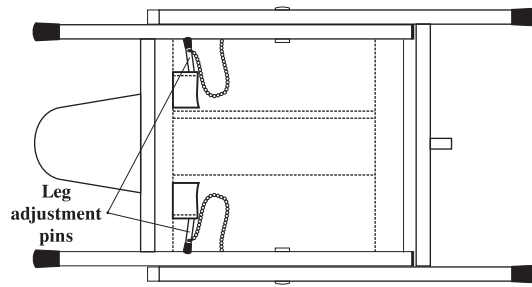

Figure 1 - Leg Adjustment Pin Location
2. Rotate the chair up onto one side and remove the leg adjustment pins from their storage pouch underneath the chair seat. (Fig. 1)
1. **Seat Height-** The ADC-01P-RED chair seat height can be set at any of the five preset settings. Without a patient in the chair, put your toe on one of the front chair legs and lift up slightly on the chair seat. While lifting and holding seat, remove the leg adjustment pin from the right and left side. Align link with tube hole in any of the five positions and lock in place by inserting the pin and chain assembly. (see Fig. 1)